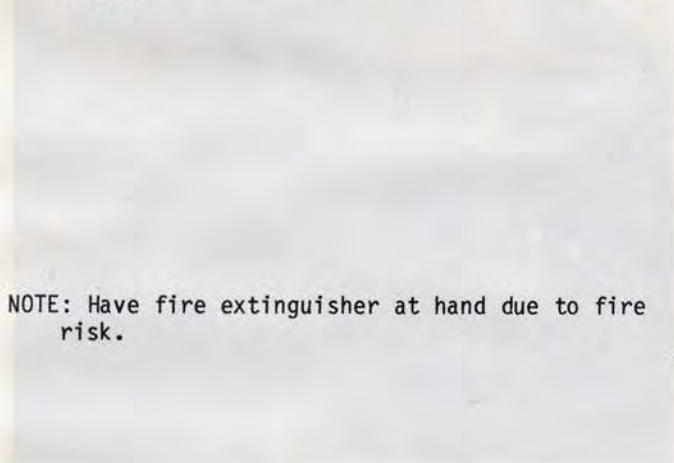

Fig.71. Weld apron panel to side panel.
11. Weld apron panel on bulkhead and side panel, Fig.71.